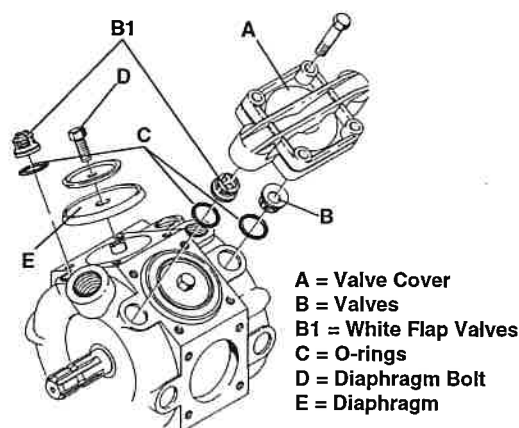

Fig 37
- 1 Remove the valve covers (A Fig 37). Before changing the valves (B Fig 37 & B1 Fig 37) note their orientation so they are replaced correctly.
- 2 The two white flap valves (B1 Fig 37) must be placed in the valve openings as shown. It is recommended to use new O-rings (C Fig 37) when changing or checking the valves.
- 1 With the valve covers removed as explained above, remove the diaphragm bolts (D Fig 37).
- 2 The diaphragms (E Fig 37) may now be changed.